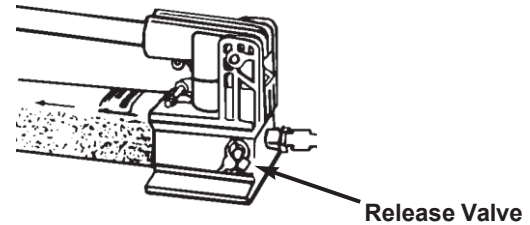

Figure 5
6. Close the pump release valve by turning it clockwise (Figure 5). Holding the punch set in position, work the pump handle until the punch completely penetrates the metal.